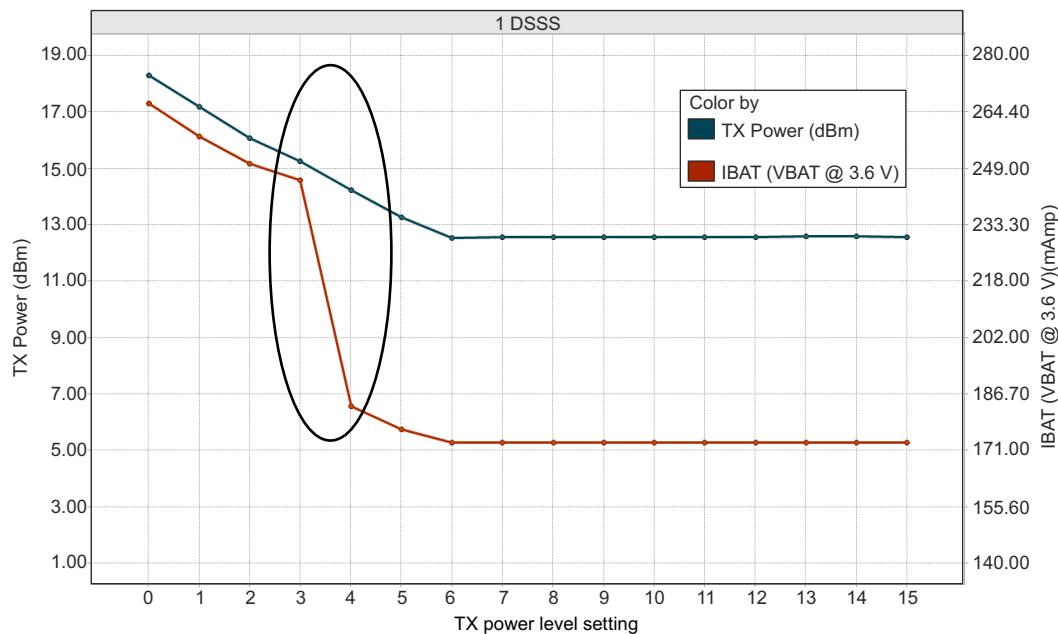
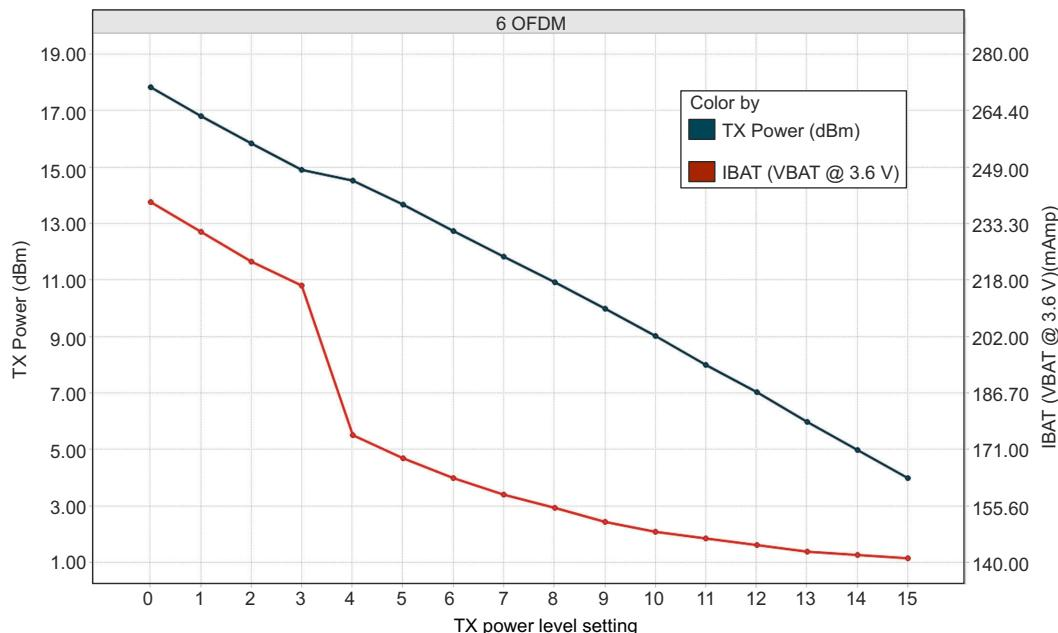
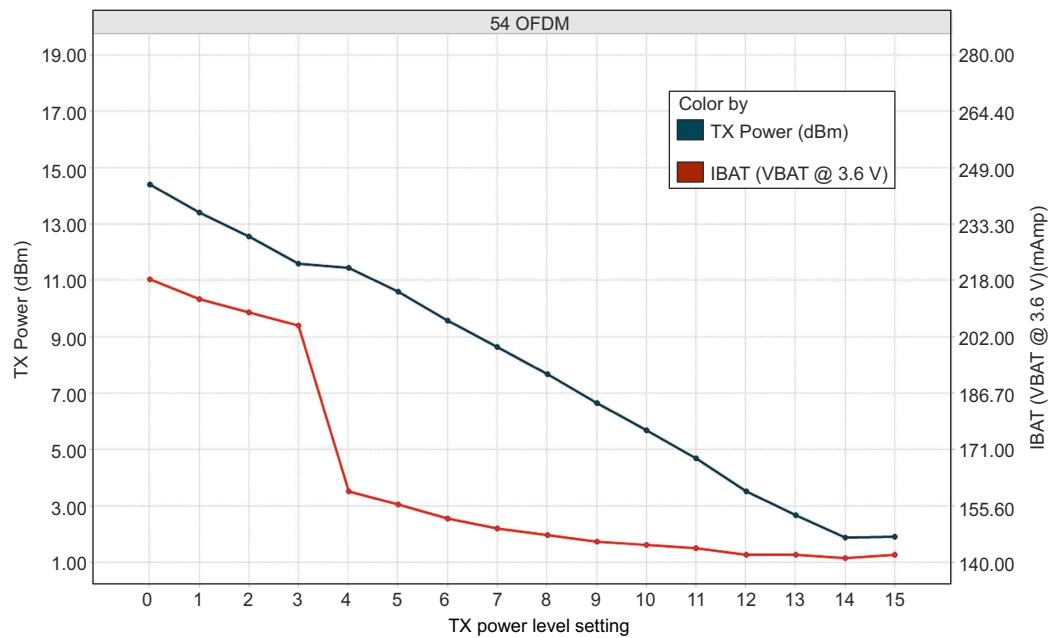

图 8-1. TX Power and IBAT vs TX Power Level Settings (1 DSSS)
图 8-2. TX Power and IBAT vs TX Power Level Settings (6 OFDM)
图 8-3. TX Power and IBAT vs TX Power Level Settings (54 OFDM)
- (1) TX power level = 0 implies maximum power (see 图 8-1, 图 8-2, and 图 8-3). TX power level = 4 implies output power backed off approximately 4 dB.
- (2) LPDS current does not include the external serial Flash. The LPDS number of reported is with retention of 256KB of MCU SRAM. The CC3220x device can be configured to retain 0KB, 64KB, 128KB, 192KB, or 256KB of SRAM in LPDS. Each 64-KB block of MCU retained SRAM increases LPDS current by 4 μA .
- (3) DTIM = 1
- (4) The complete calibration can take up to 17 mJ of energy from the battery over a time of 24 ms. In default mode, calibration is performed sparingly, and typically occurs when re-enabling the NWP and when the temperature has changed by more than 20°C . There are two additional calibration modes that may be used to reduced or completely eliminate the calibration event. For further details, see CC3120, CC3220 SimpleLink™ Wi-Fi® and IoT Network Processor Programmer's Guide.
- (5) The CC3220x system is a constant power-source system. The active current numbers scale based on the V_{BAT} voltage supplied.
- (2) LPDS current does not include the external serial flash. The LPDS number of reported is with retention of 256KB of MCU SRAM. The CC3220x device can be configured to retain 0KB, 64KB, 128KB, 192KB, or 256KB of SRAM in LPDS. Each 64-KB block of MCU retained SRAM increases LPDS current by 4 μA .
- (4) The complete calibration can take up to 17 mJ of energy from the battery over a period of 24 ms. Calibration is performed sparingly, typically when coming out of HIBERNATE and only if temperature has changed by more than 20°C . The calibration event can be controlled by a configuration file in the serial Flash..
图 8-1, 图 8-2, and 图 8-3 show TX Power and IBAT versus TX power level settings for the CC3220R and CC3220S devices at modulations of 1 DSSS, 6 OFDM, and 54 OFDM, respectively. For the CC3220SF device, the IBAT current has an increase of approximately 10 mA to 15 mA depending on the transmitted rate. The TX power level will remain the same.
In 图 8-1, the area enclosed in the circle represents a significant reduction in current during transition from TX power level 3 to level 4. In the case of lower range requirements (14-dBm output power), TI recommends using TX power level 4 to reduce the current.